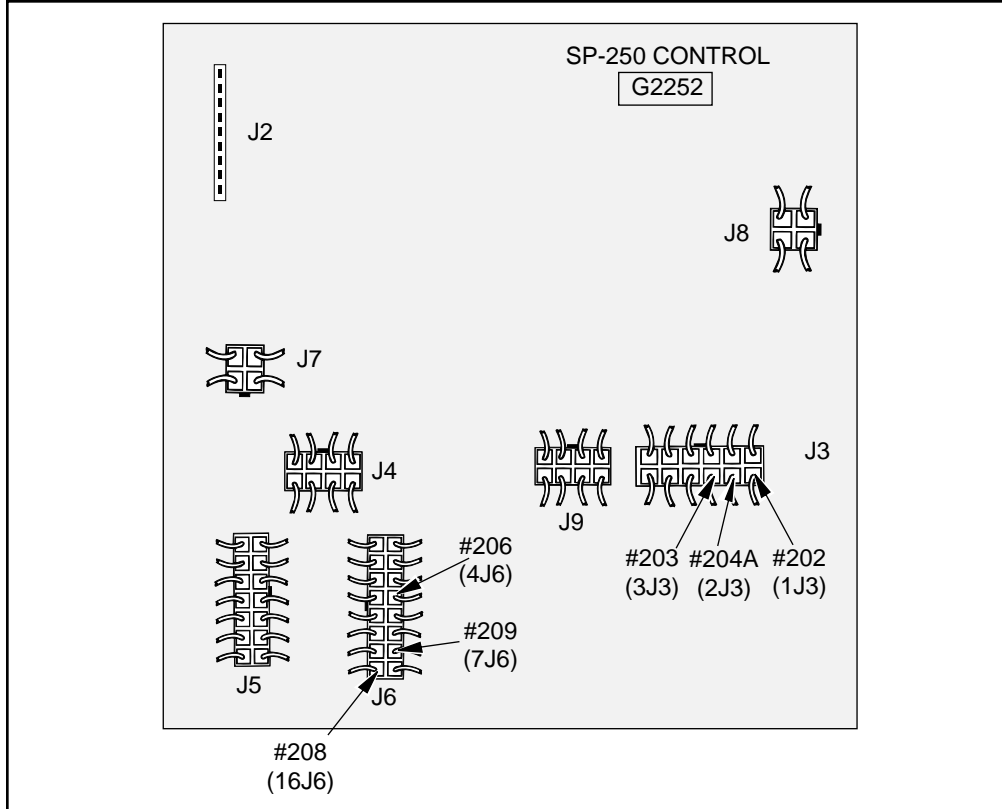

FIGURE F.1A - G2252 Control PC Board Main Transformer Test Points.
3. Locate Plug J3 and Plug J6 on the G2252 Control PC Board or Plug J3 on the G1992 (Code 9402 only) Control PC Board. See Figures F.1A and F.1B.
9. Locate the following leads on Plug J6 on the G2252 Control PC Board or Plug J3 on the G1992 Control PC Board. See Figures F.1A & F1.B.